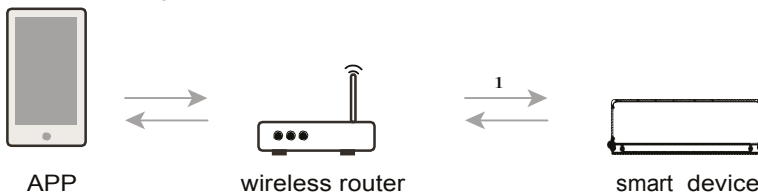

Figure 8.1
- When the mobile phone and smart air conditioner connected to the same wireless router, the connection is as shown in Figure 8.1 to achieve the connection.
- When the mobile phone and air conditioner connected to the same wireless router, it is as shown in Figure 8.1 to achieve the connection.